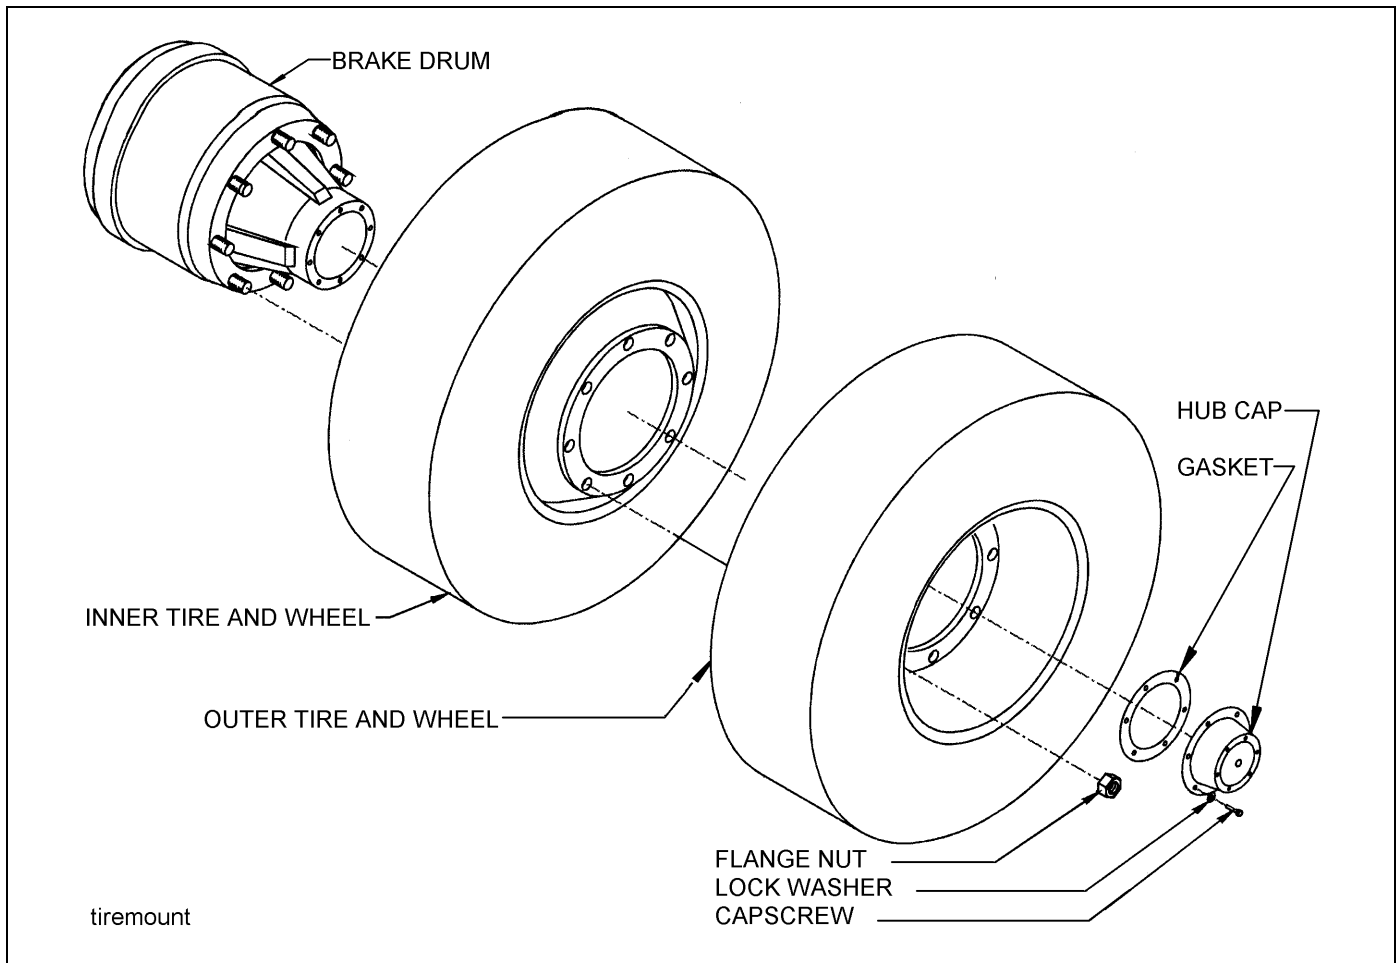

Figure 4-21: Mounting Tires and Wheels
1. Make sure that all mounting surfaces are clean and free of rust, dirt or paint. A wire brush may be used to clean these surfaces (**See Figure 4-21.**)